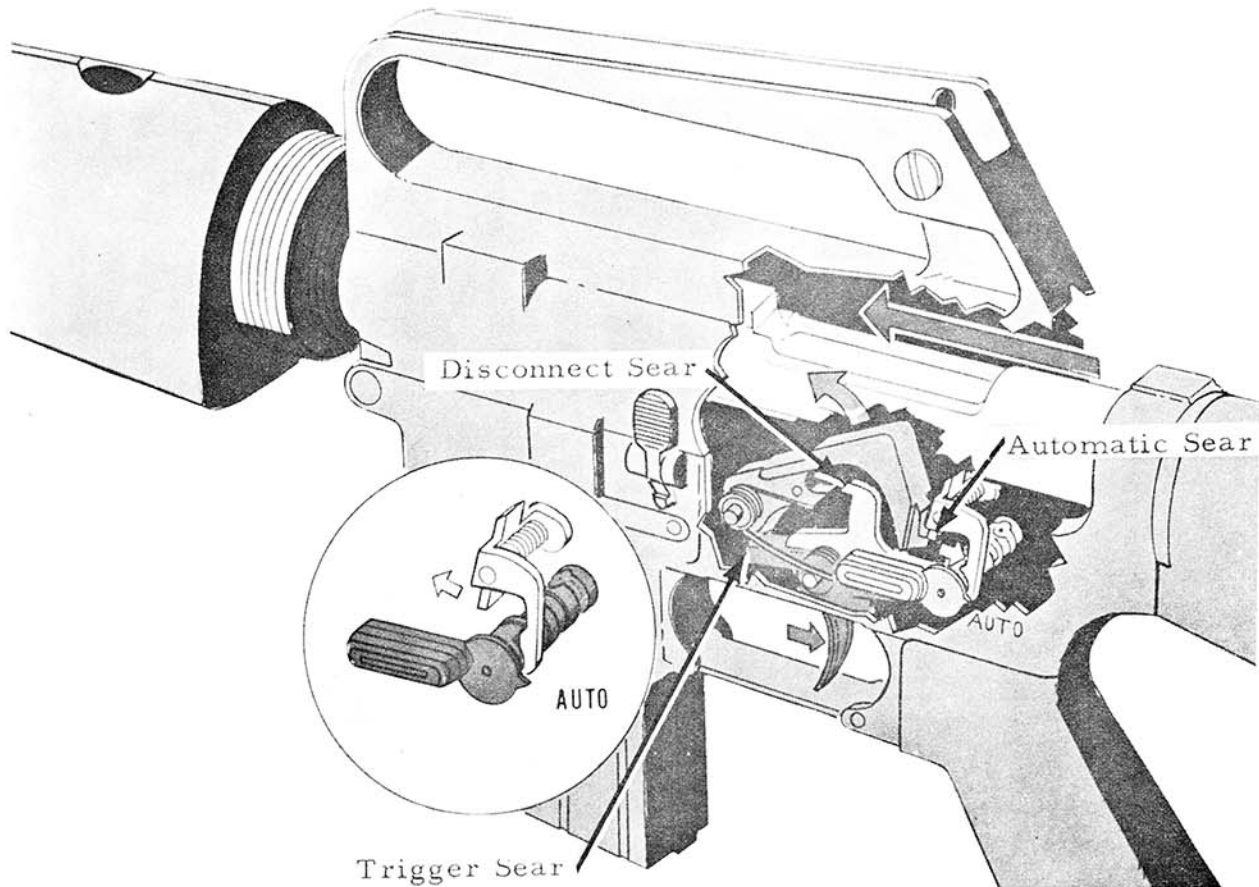

Figure 2-9. Automatic Cocking and Firing.
b. AUTO (Automatic). (See Figure 2-9, page 14)